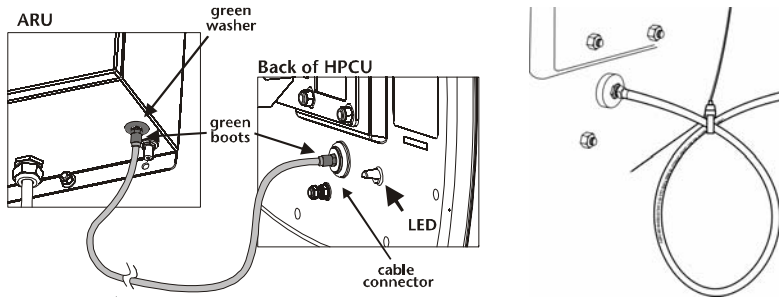

Figure 4.7 ARU to HPCU Cable and Drip Loop
4. Connect the HPCU coaxial cable (the 40-ft cable with green boots) to the green RF port on the underside of the ARU cabinet - see Figure 4.7.
A drip loop in the coaxial cable is needed if the cable at the back of the HPCU does not slope down from the HPCU. Maintain a minimum bend radius of 3-in. A drip loop is shown on the right in Figure 4.7.